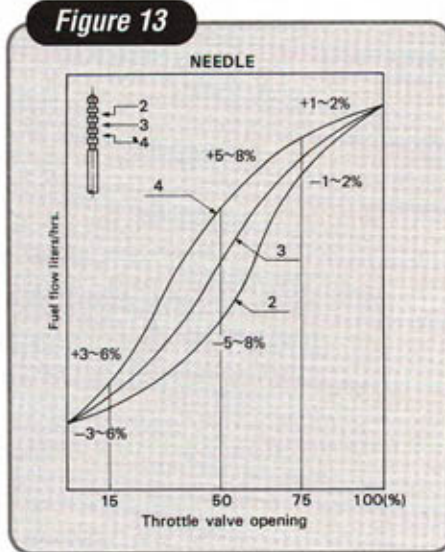

Figure 13
C. - Selection of NEEDLE JET and NEEDLE (Fig. 13 & 14)
A carburetor with a piston-type throttle valve is also called a variable venturi-type carburetor. In this type of carburetor, the needle jet and the needle serve to control a proper air-fuel mixture ratio during the so-called medium throttle valve opening (between 1/4 and 3/4 opening). The right combination of needle jet and needle will have a major bearing on the engine performance at partial load. The jet needle tapers off at one end and the clearance between the needle and the needle jet increases as the throttle valve opening gets wider. The air-fuel mixture is controlled by the height of the needle positioning clip that is inserted into one of the five slots provided in the head of the needle. The variation of fuel flow based on the height of the clip is shown in Fig. 13.